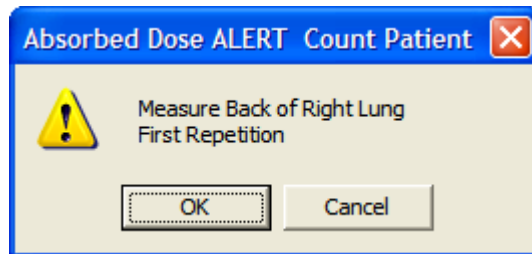

Figure 7-24
- You will be prompted to measure the correct organ as shown in Figure 7-24.